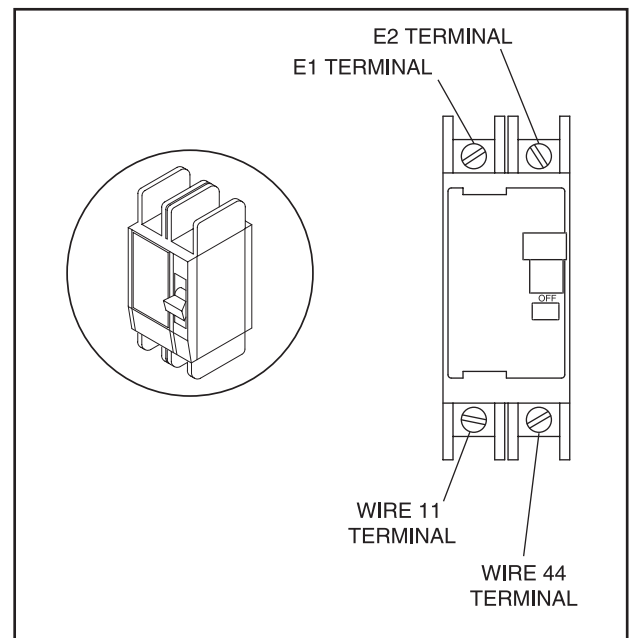

Figure 1. Generator Main Circuit Breaker Test Points
If you suspect the breaker may have failed, it can be tested as follows (see Figure 1):
1. With the engine shut down, connect the AC voltmeter test leads across the Wires 11 and 44 terminals of the generator main circuit breaker (see Figure 1). These connections will permit line-to-line voltages to be read.